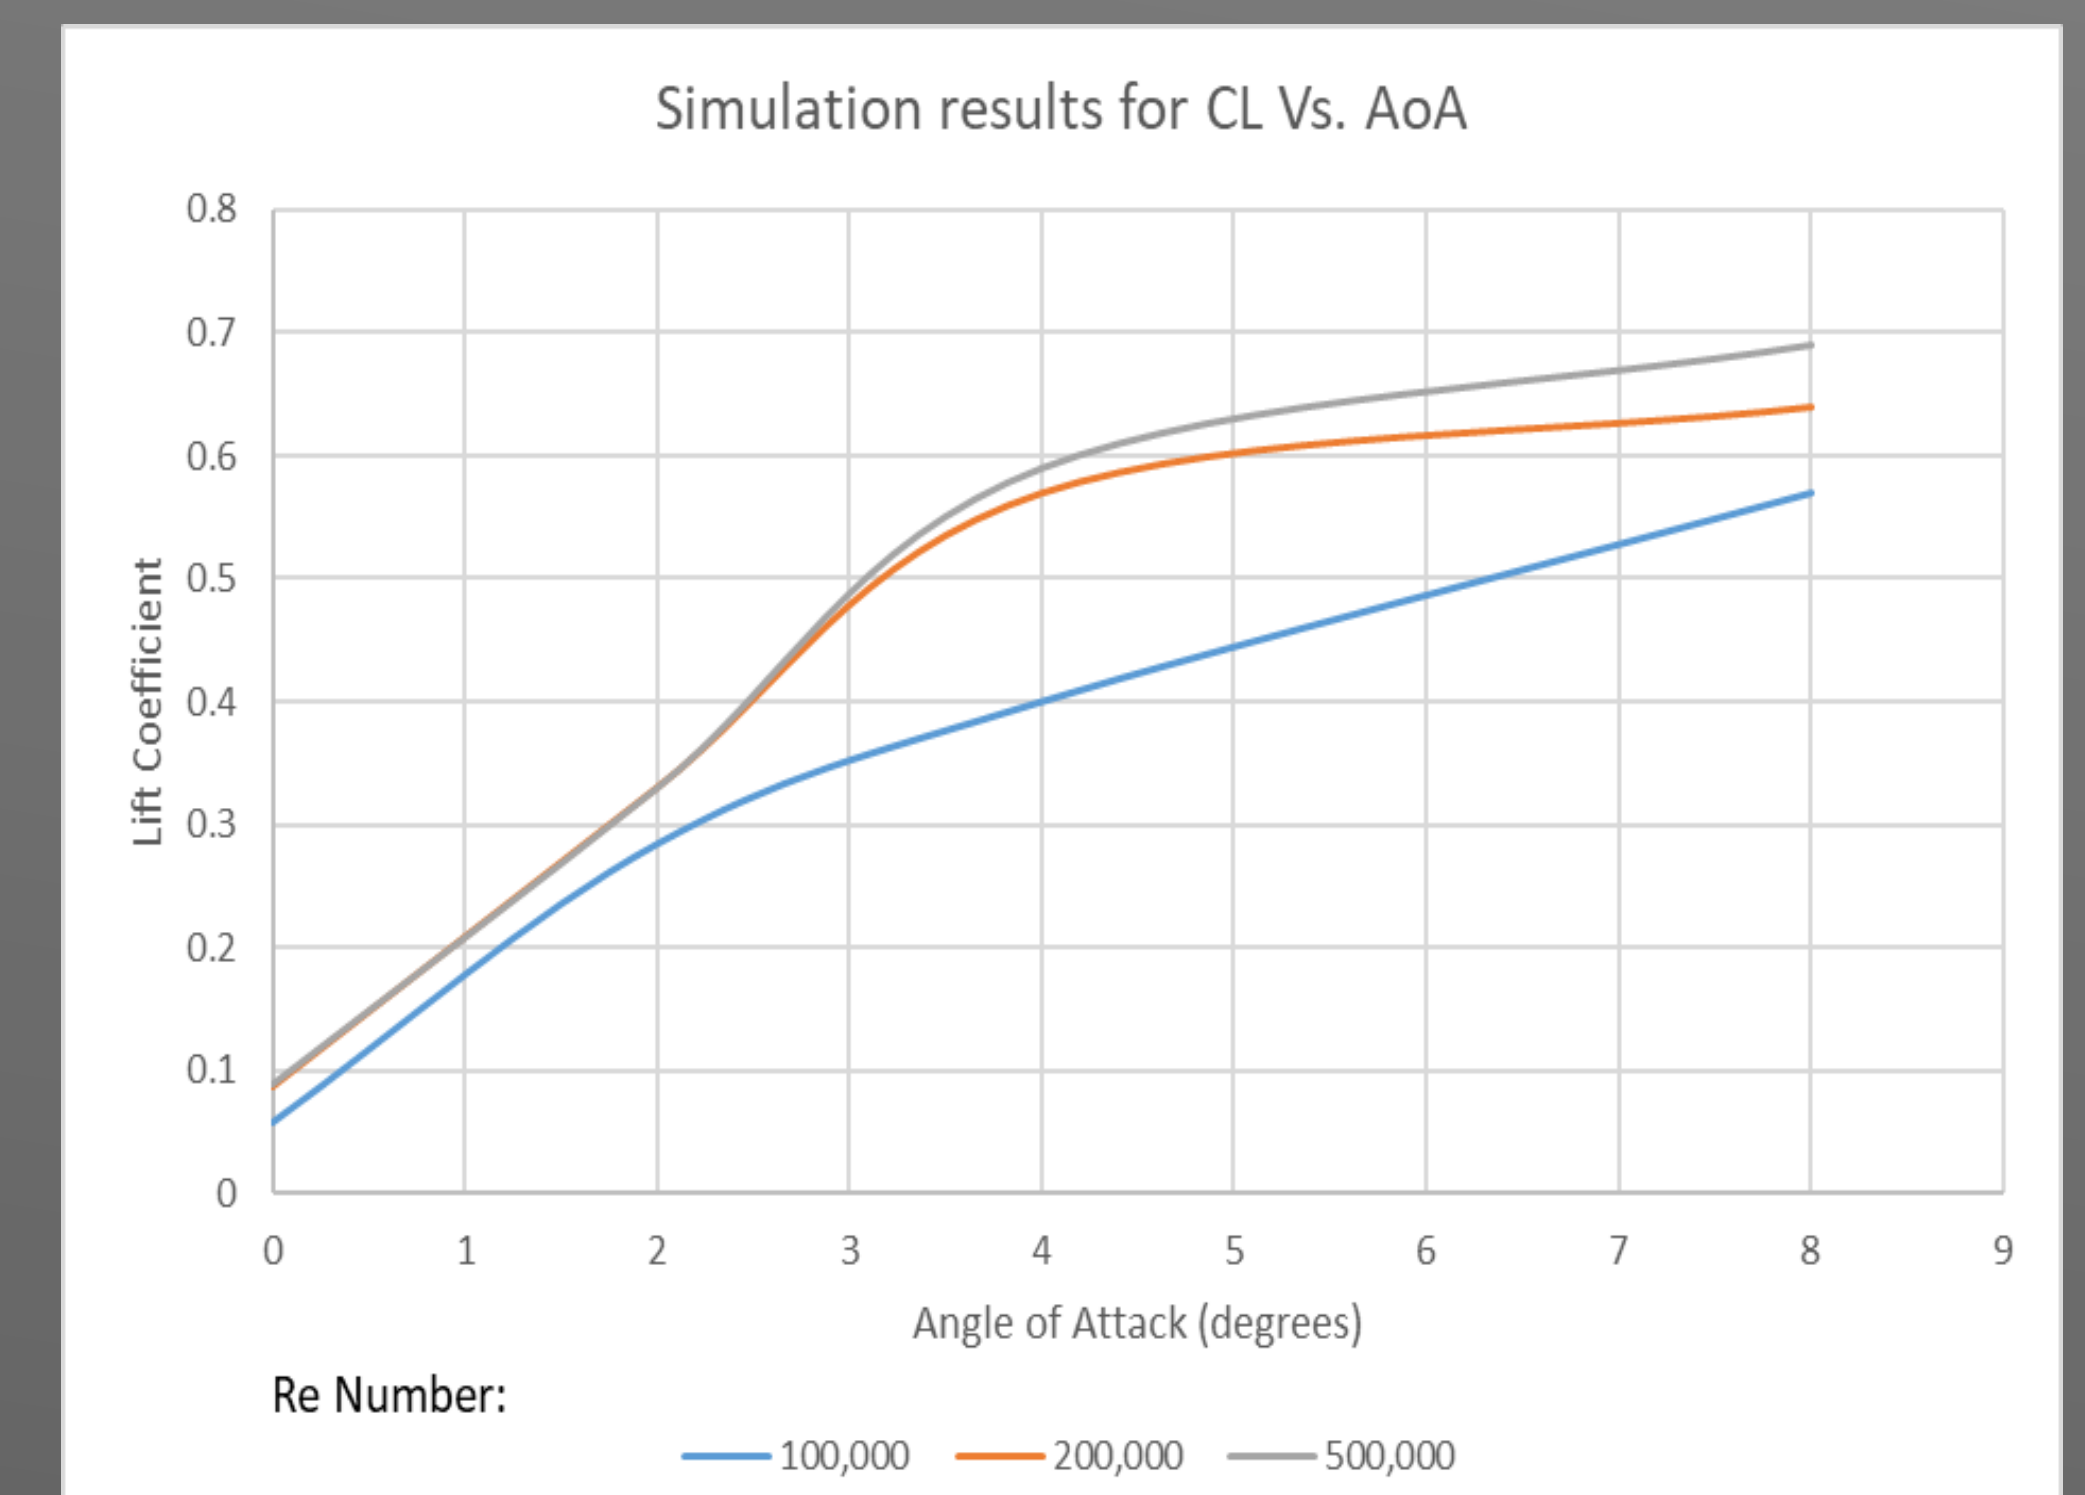

Figure 8. Simulation results for C_L vs. AoA for Re=1e5, 2e5, and 5e5
- For higher Reynolds numbers, the lift coefficients are closer to the experimental values (Fig. 8)